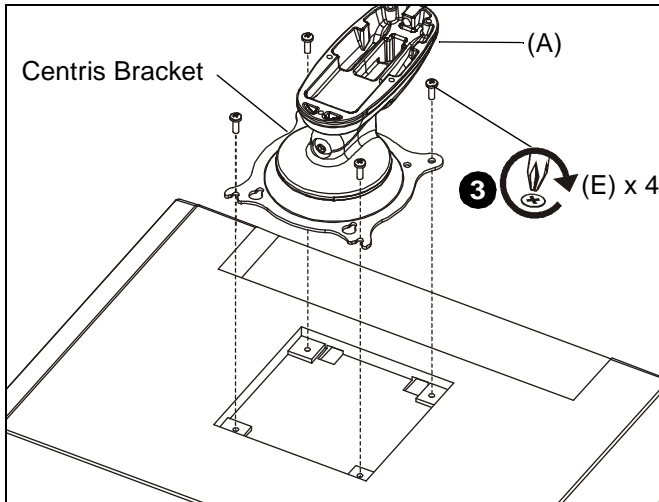

Figure 7
2. Pick up and orient the mount (A) so that the mounting holes in the Centris bracket are aligned with the mounting holes in the display. (See Figure 7)
3. Using Phillips screwdriver, install four screws (E) through the mounting holes/cutouts in Centris bracket into the display. (See Figure 7) Tighten all four screws (E). Do not over-tighten!